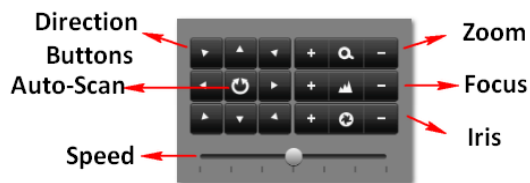

Figure 87 PTZ Controls Button
4. Using the Directional buttons and other PTZ control buttons (Zoom +/-, Focus +/-, Iris +/-, the speed of the PTZ movement), test the functionality of the PTZ camera. If PTZ camera and protocol supports it, you may also click the Auto-Scan button to test its function. PTZ controls buttons are shown in Figure 87.
2. Select the More Settings tab, as shown in Figure 87.